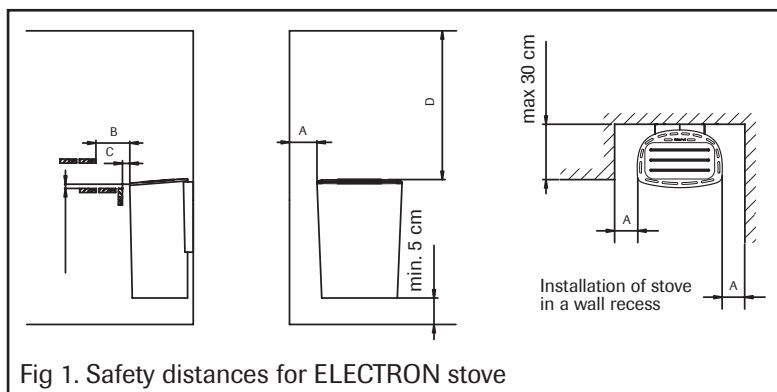

Fig 1. Safety distances for ELECTRON stove
**) See Fig. 1
- The stove can also be installed in a wall recess, cf. Fig. 1.